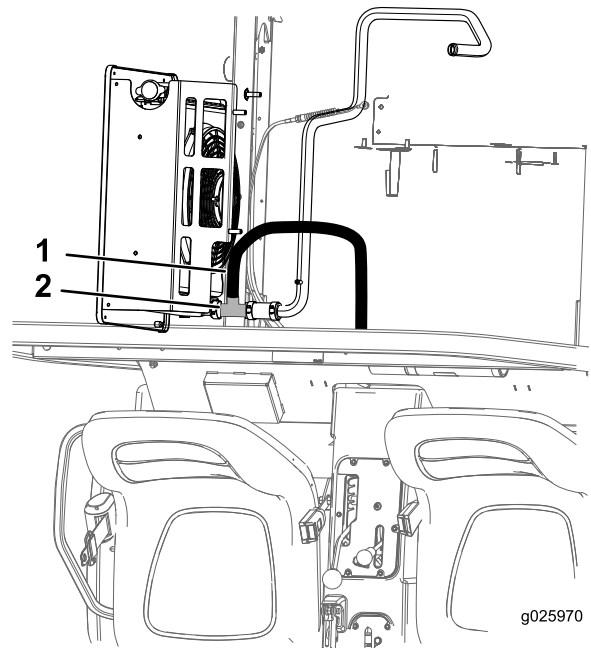

Figure 8
3. Cut the lower radiator hose and connect the tee fitting to each newly cut end of the lower radiator hose with the 2 wide hose clamps (Figure 8).